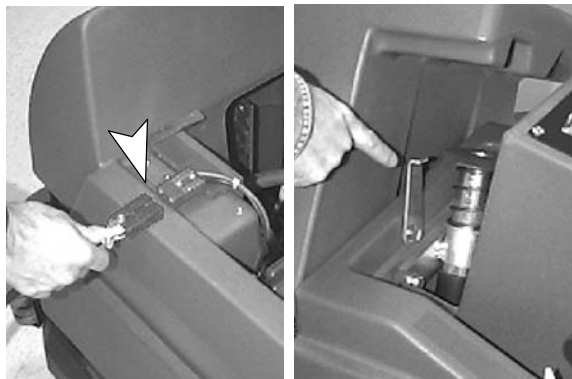

FIG. 24
8. Recharge the batteries after a total of 30 minutes of use or more (Figure 24).